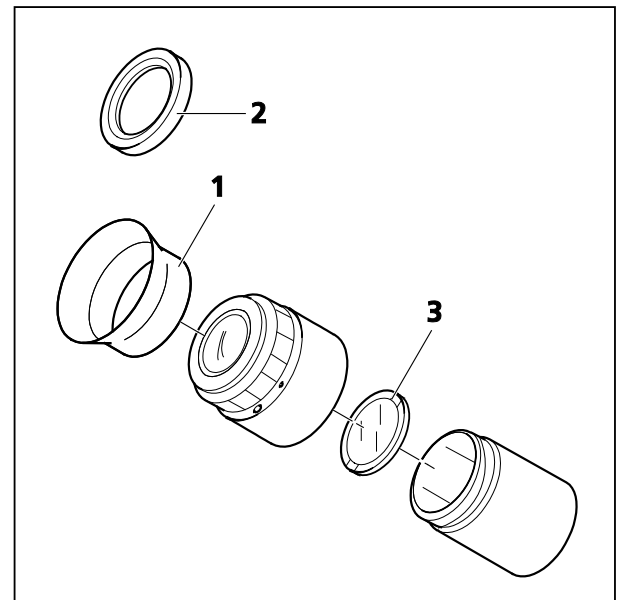

Fig. 13 Inserting the fold-over eyecups
Eyepiece reticles (Fig. 13/3) may be inserted into focusable / adjustable eyepieces marked with a red dot.
- Remove the spectacle protection rings (Fig. 13/2) from the eyepieces and attach the eyecups (Fig. 13/1).